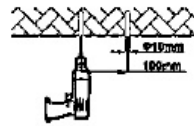

Figure 3
1. Mark with a pen or sharp tool on the mounting surface and drill. (figure 3)